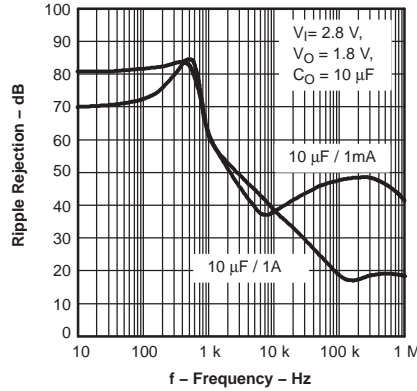

Figure 14.
• Deleted Figure 14, Output Impedance vs Frequency .....	7